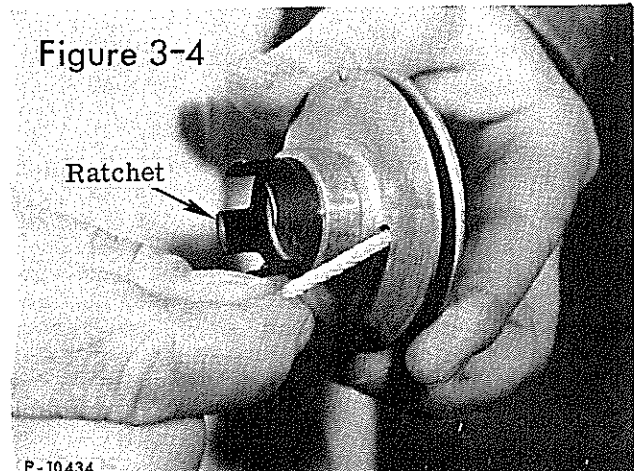

Figure 3-4
- a. Pry the rope insert (4) out of the handle (5) with a screwdriver. Cut the old rope (6) below the handle and pull the cut end out through the handle and the insert. Unwind the rope from the drum and pull the other knotted end out through the side of the drum.
- b. Feed the new rope through the small hole on the ratchet side of the drum (Figure 3-4).
5. Carefully remove the spring (7). Do not let it fly free from the housing. The drum washer (8) can now be removed. If it is necessary to remove the rope guide (9), pry it out with a screwdriver.